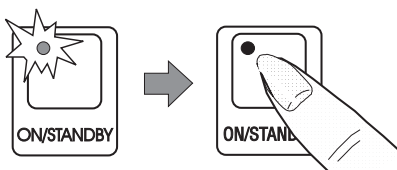

**Figure 3-13**
13. Press the ON/STANDBY touch pad and verify the indicator light is extinguished (see Figure 3-13). The sterilizer should remain in the STANDBY mode (indicator light off) when the unit is not in use.